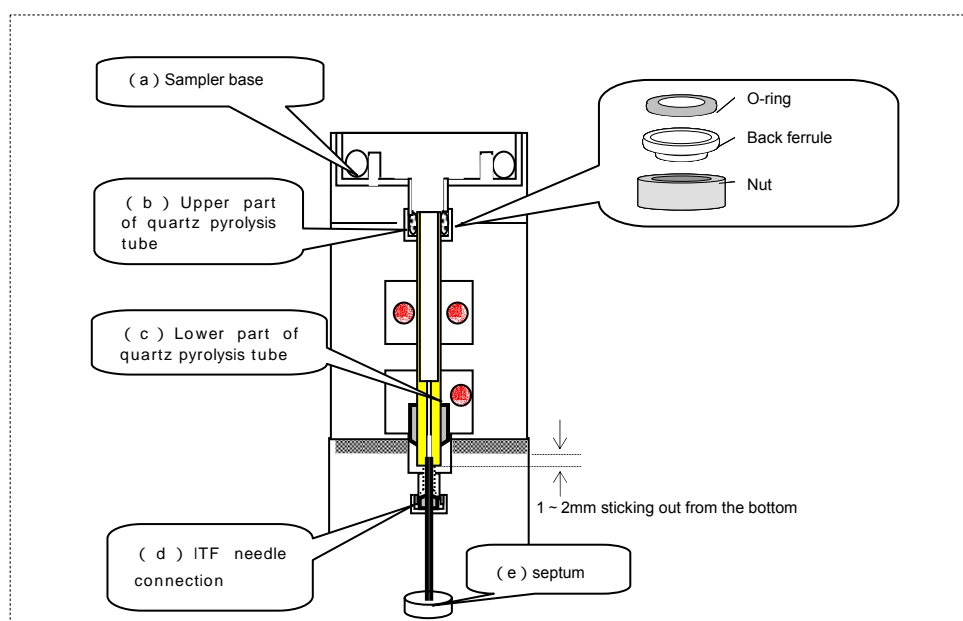

Fig.3.10 Possible locations of gas leakage
3. Hand tighten the quartz pyrolysis tube securing nut at the top. At this point, 1~2mm of the bottom end of the quartz tube should be sticking out from the bottom of the Pyrolyzer (Fig. 3.10).
STEP 7 Gas leakage check (Fig. 3.10)
There are four plausible locations in the Pyrolyzer where gas leakage can occur (Fig. 3.10).